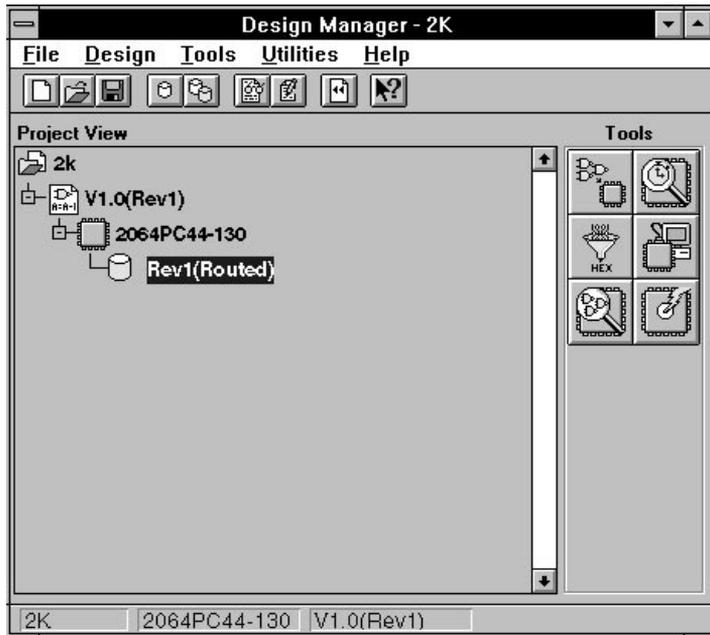

Figure 3-4 Routed XC2000 Design in the Design Manager
1. From the Design Manager, click the left mouse button on the routed design icon, as shown in Figure 3-4. Then select the **Implement** command from the Design menu.